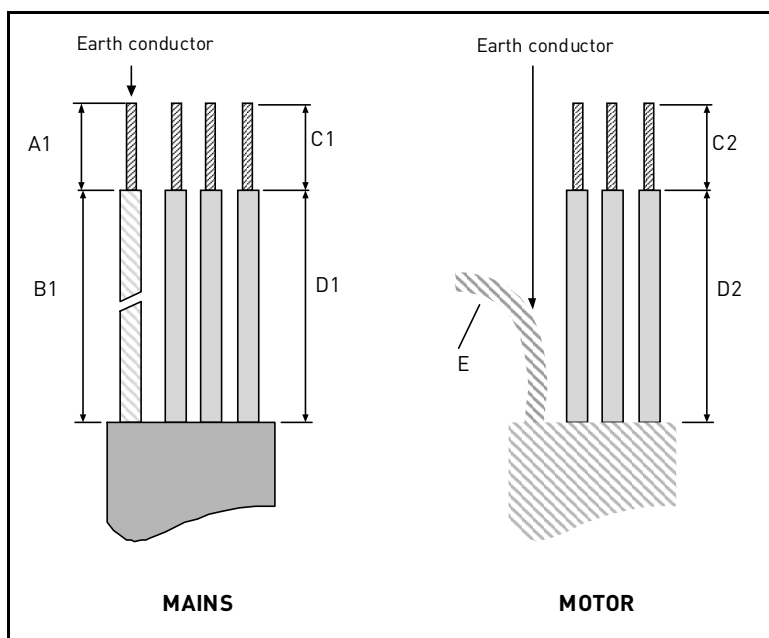
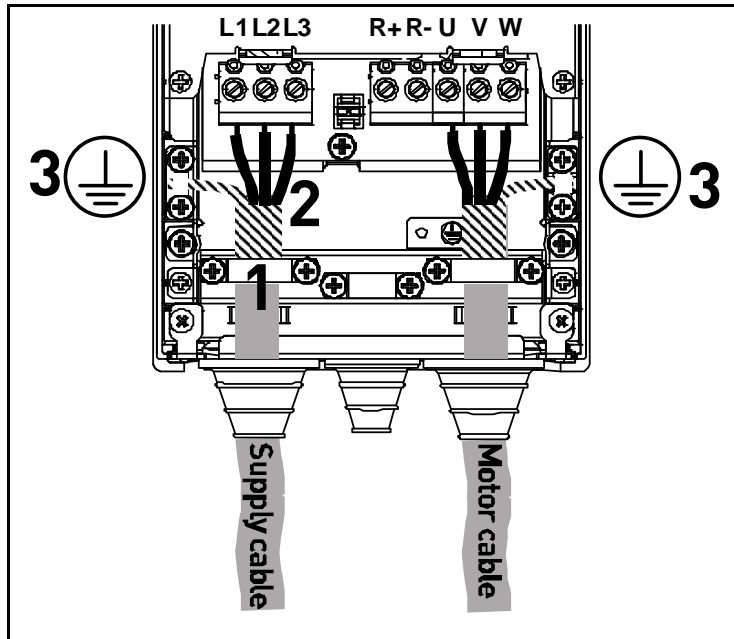

Figure 19. Stripping of cables
Figure 26.
- Connect the stripped cables (see Figure 19 and Table 19) as shown in Figure 26.
- Expose the shield of all three cables in order to make a 360-degree connection with the cable clamp (1).
- Connect the (phase) conductors of the supply, brake and motor cables into their respective terminals (2).
- Form the rest of the cable shield of all three cables into “pigtails” and make a grounding connection with a clamp as shown in Figure 26 (3). Make the pigtails **just long enough** to reach and be fixed to the terminal - not longer.